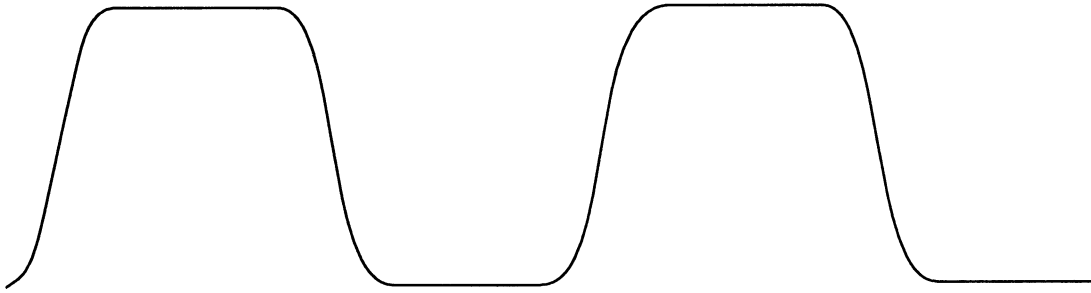

Figure 32. 1.5 kHz Filtered Square Wave
- Step 26. Observe a 1.5 kHz filtered square wave on the consolette's demodulated output. This pattern is shown in Figure 32.
Due to the narrow bandwidth of the consolette's receiver, the 1.5 kHz tone may be slightly distorted slightly from the illustration in Figure 32.
- f. Select the scope timebase so the trigger of the reference data and the delayed trigger in the received eye pattern may be observed on the scope simultaneously. This will be approximately 200 $\mu\text{s}/\text{div}$ (see Figure 32).